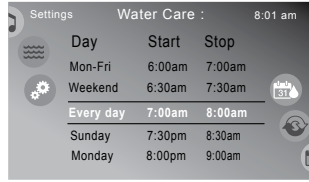

Figure 12.1d
2. Then tap the plus sign, **+**, to add a new cycle or tap the cycle to change, Weekend 1:00am 3:00am. The display will change to Figure 12.1d.